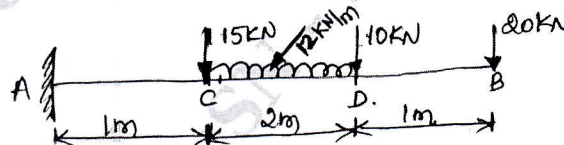

Fig.Q.5(b)
- b. A cantilever beam carries UDL and point loads as shown in Fig.Q.5(b). Draw SFD and BMD. (12 Marks)